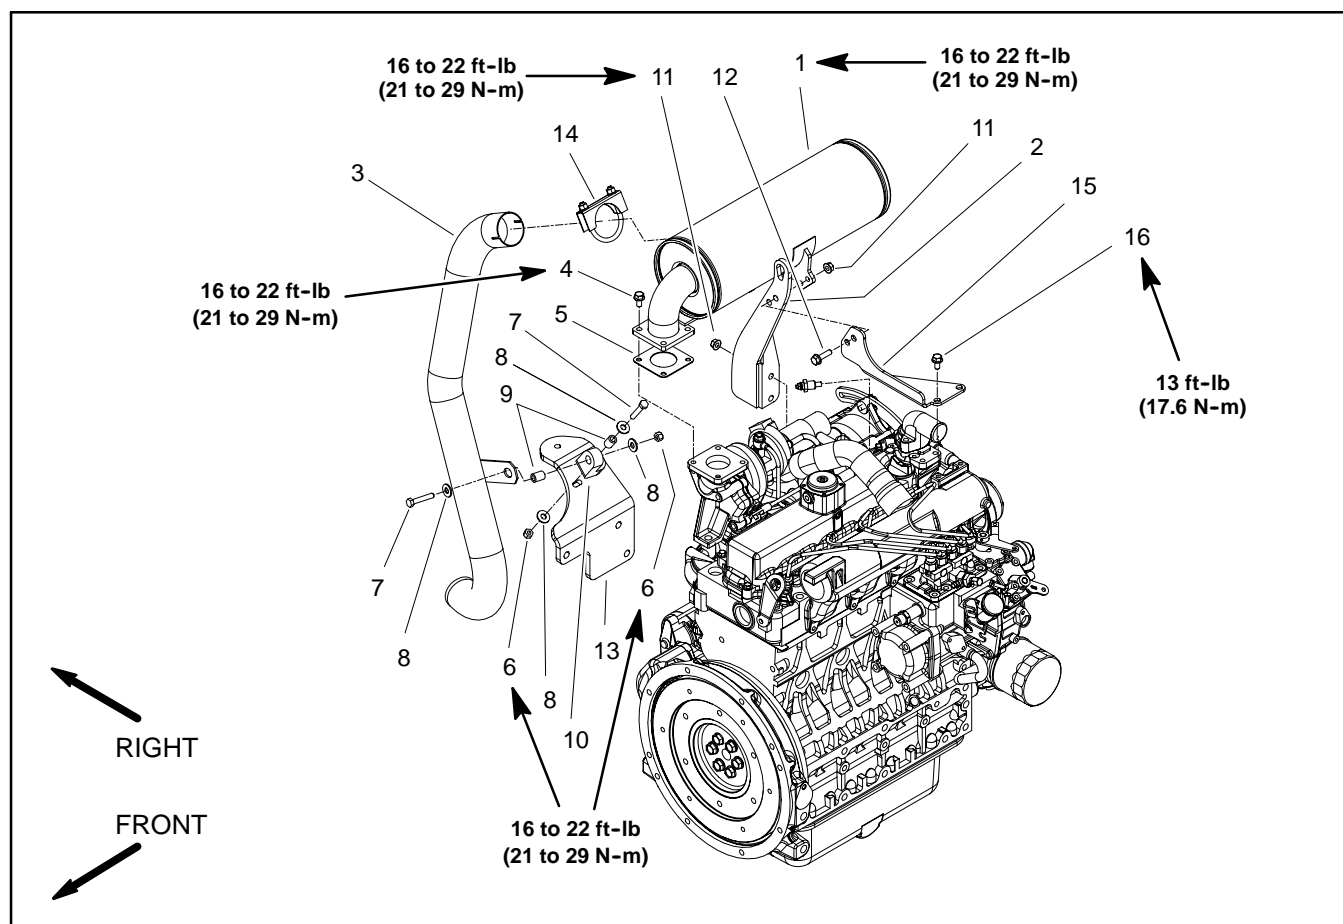
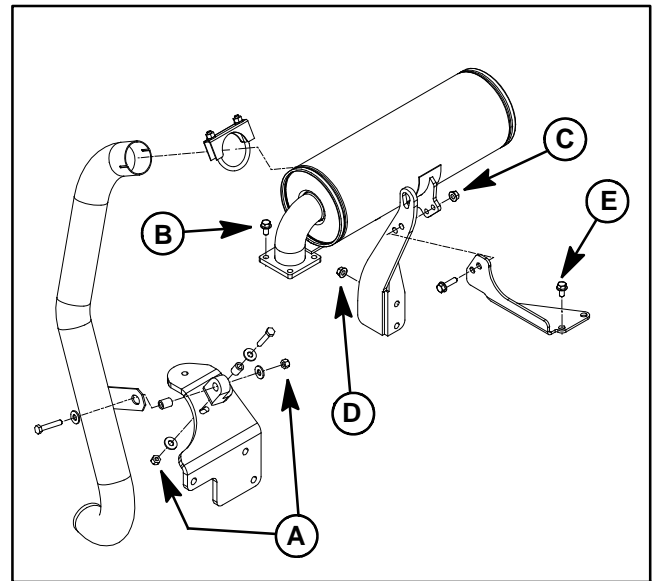

Figure 5
Figure 6
Removal (Fig. 5)
3. Remove exhaust system components from the engine as necessary using Figure 5 as a guide.
Installation (Fig. 5)
2. Install exhaust system components to the engine using Figure 5 as a guide. Hand tighten exhaust system fasteners and then torque in the sequence shown in Fig. 6 as follows: